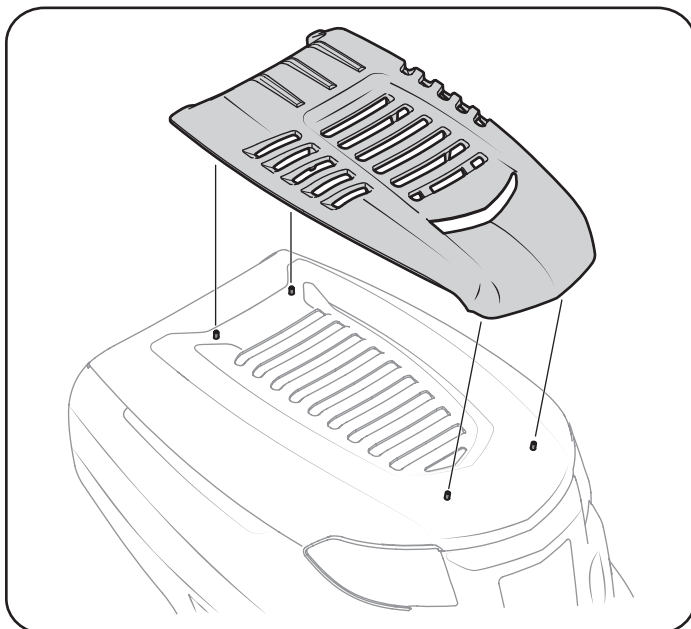

Figure 11
4. Snap the hood scoop into place using the hood as your guide. See Figure 11.